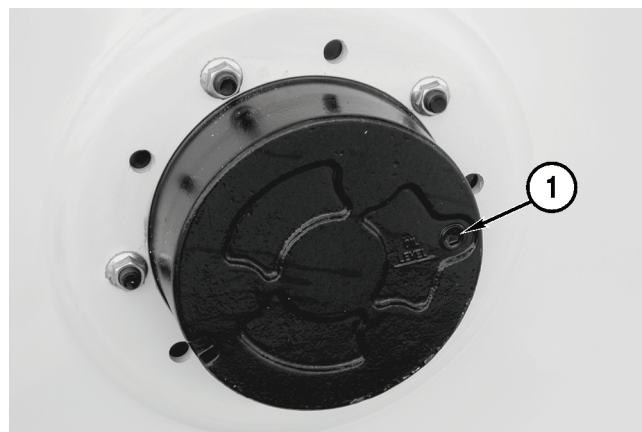

Figure 5-44
The planetaries are located on each rear wheel. The plug (**Figure 5-44, 1**) on the planetary serves as the drain and fill location.
5. Install the plug (**Figure 5-44, 1**) and tighten.